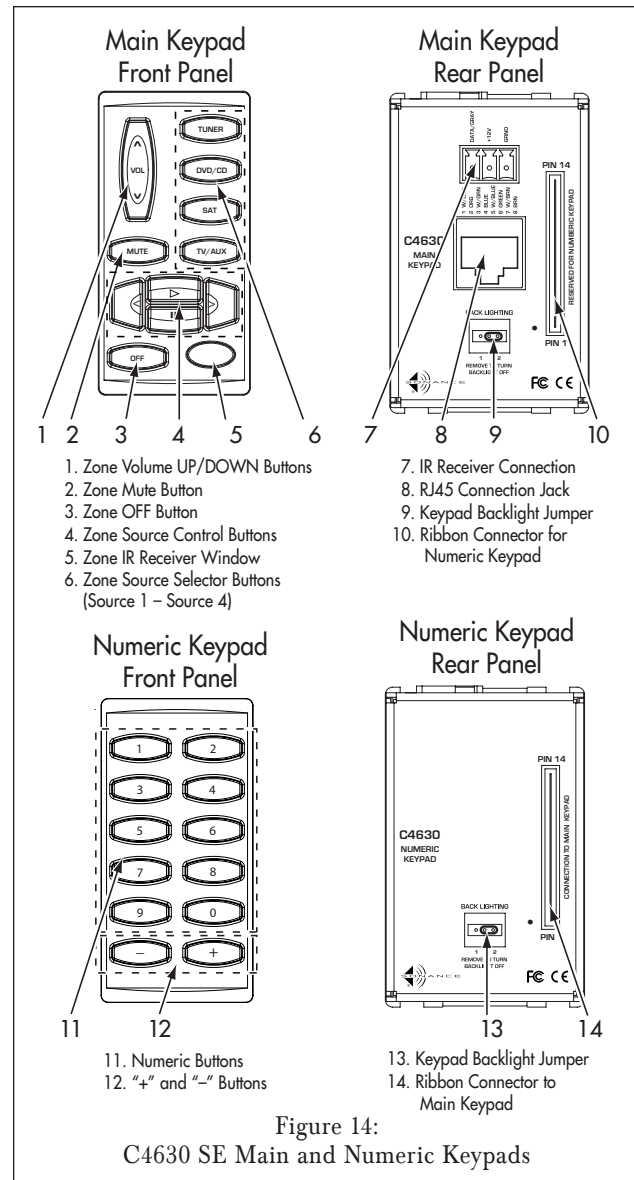
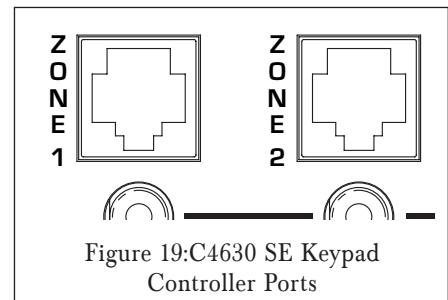

Figure 14:
Figure 19: C4630 SE Keypad
### C4630 SE Main Keypad (see Figure 14)
### C4630 SE Numeric Keypad (see Figure 14, on page 18)
4. Connect the CAT5/RJ45 cable to the RJ45 Connection Jack on the back of the Main Keypad (see *Figure 14*, on page 18) and to the zone's Keypad Controller Port on the C4630 SE (see *Figure 19*).
The buttons on the optional C4630 SE IR remote will perform the same functions as the correspondingly-named buttons on the Main and Numeric Keypads (see Figure 14, on page 18). Additionally, the remote also has an ALL OFF button and an OK button.
Without additional programming via the Sonance Control Manager, the C4630 SE has very limited functionality. The following functions are available “out-of-the-box” through the C4630 SE Main Keypad (see Figure 14, on page 18) and the optional IR remote: